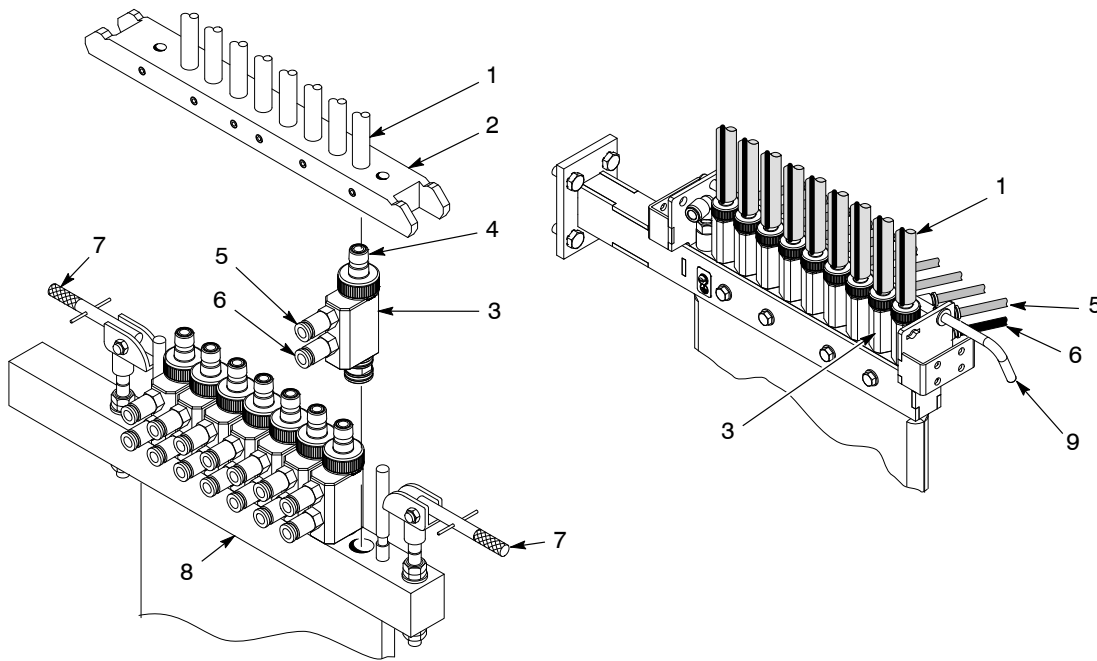

Figure 2 Removing and Installing Inline Pumps on Lance Assemblies – Hose Manifold Version Shown
3. See Figure 2. If used, unclamp the hose manifold (2).
4. Remove the hose manifold, or disconnect the hoses from the pumps, then remove the retainer rod (9).
5. Disconnect the air tubing from the pump flow rate (6) and atomizing air (5) fittings.
6. Pull the pumps (3) off the manifold block (8) with a slight twisting motion.
**NOTE:** For best results, the powder feed hose (1) should be no longer than 10.7 meters (35 feet) and rise vertically over its length no more than 3.7 meters (12 feet).
1. See Figure 2. Push the pump (3) into the manifold block (8) until the pump body bottoms out against the block.
2. Connect the flow rate and atomizing air tubing to the flow rate (6) and atomizing air (5) fittings.
3. Install the hose manifold (2) onto the pump venturi throats (4), or install the retainer rod (9), then connect the hoses to the pumps.